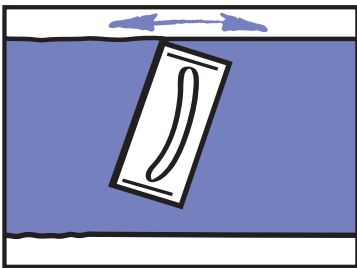

FIGURE 11 Sanding
- Lightly sand to a smooth even surface using a sanding float and 180 grit paper or 220 sanding mesh. Use finer paper for Mastalite (e.g. 220 paper). [Refer to Figure 11]